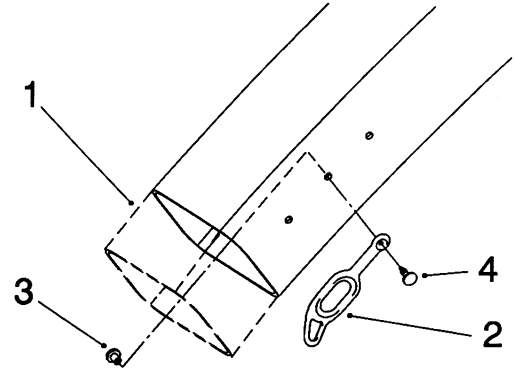

Figure 10
1. Cut 2-3/4" (7 cm) off the bottom of the discharge tube (Fig. 10).
2. Attach the rubber latch to the **middle** hole in the discharge tube using the plastic two-piece fastener (Fig. 10). Install the flanged spacer through the hole in the discharge tube from the inside. Place the rubber latch (grip tab up) over the spacer shaft. Insert the barbed fastener into the hole in the flanged spacer and push them together.